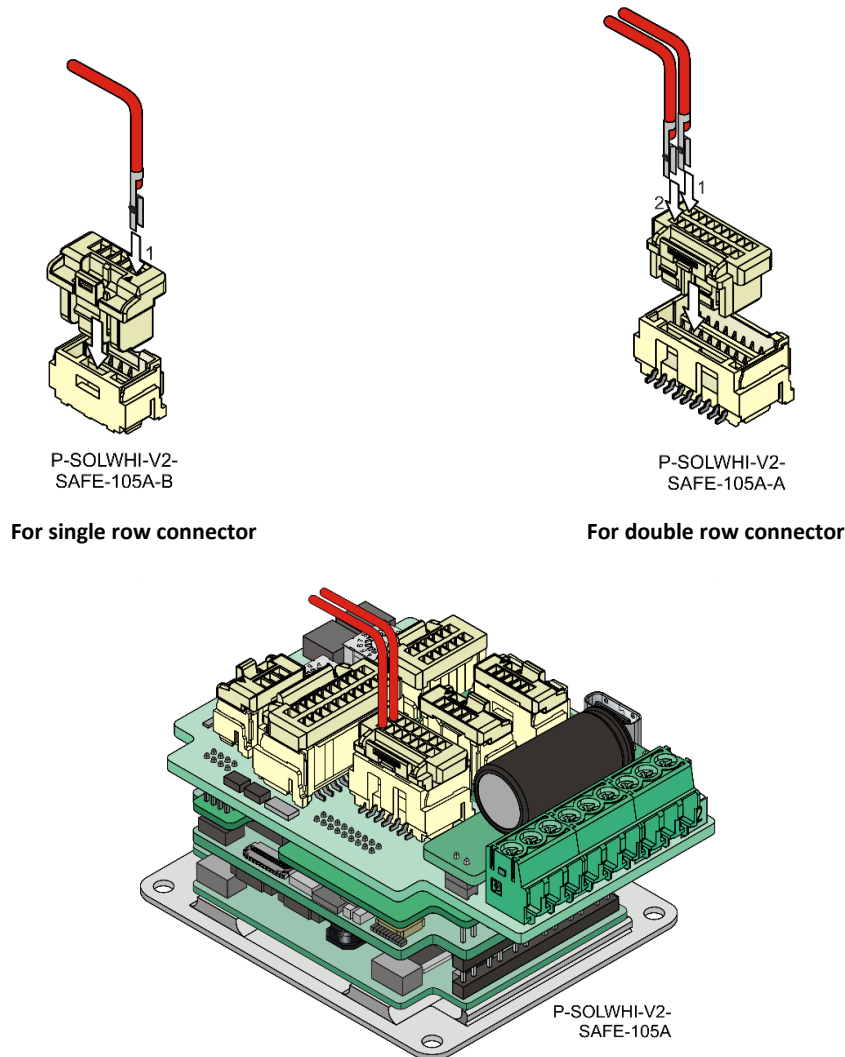

Figure 6: Inserting a wire/pin to the Female CON CLIK-MATE Connector
3. Place the connector on a flat surface, in the orientation as shown in Figure 6. Notice that the rectangular slot has a niche at the bottom of the slot.
4. Insert the wire connector to the slot as shown in Figure 6. Make sure that the connector protrusion is inserted to the bottom of the rectangular slot.
When inserting the wire connector to a slot in the second row, make sure to orientate the wire pin in the direction shown in Figure 6.